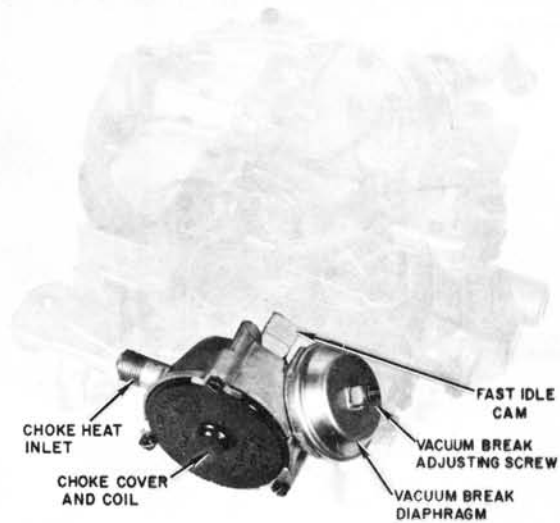

FIGURE 36
B. EARLY 4MC MODELS – (Figure 36)
1. Remove (3) choke cover screws and retainers. Then remove cover and coil assembly and inside baffle plate from choke housing.